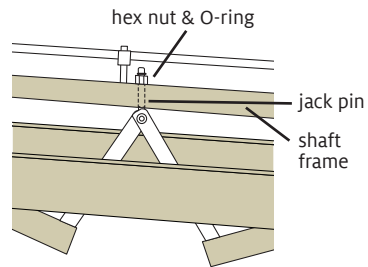

FIGURE 5: JACK PIN ATTACHMENT
9. Remove the shafts from the loom by removing the rubber O-rings and unscrewing the small hex nuts from the jack pins (Figure 5). Pull the shaft straight up and out of the loom. When you put the shaft back in the loom, be sure to insert the jack pin back into the hole and secure it with the hex nut. Replacing the rubber O-ring is optional.